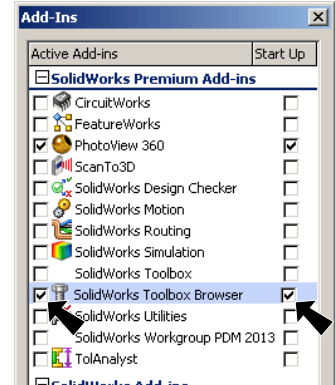

Fig. 1
- Step 3. Check **SolidWorks Toolbox Browser** to place a check in the check box, then click OK, **Fig. 1**.